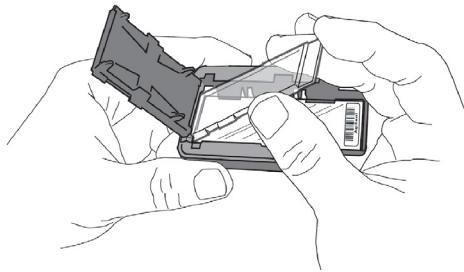

Figure 4 Inserting the ozone-barrier slide cover
- In environments in which the ozone level exceeds 5 ppb, immediately put the slides with Agilent barcode facing up in a slide holder. Make sure that the slide is not caught up on any corner. Put an ozone-barrier slide cover on top of the array as shown in Figure 4. Refer to the *Agilent Ozone-Barrier Slide Cover User Guide* (p/n G2505-90550), included with the slide cover, for more information.